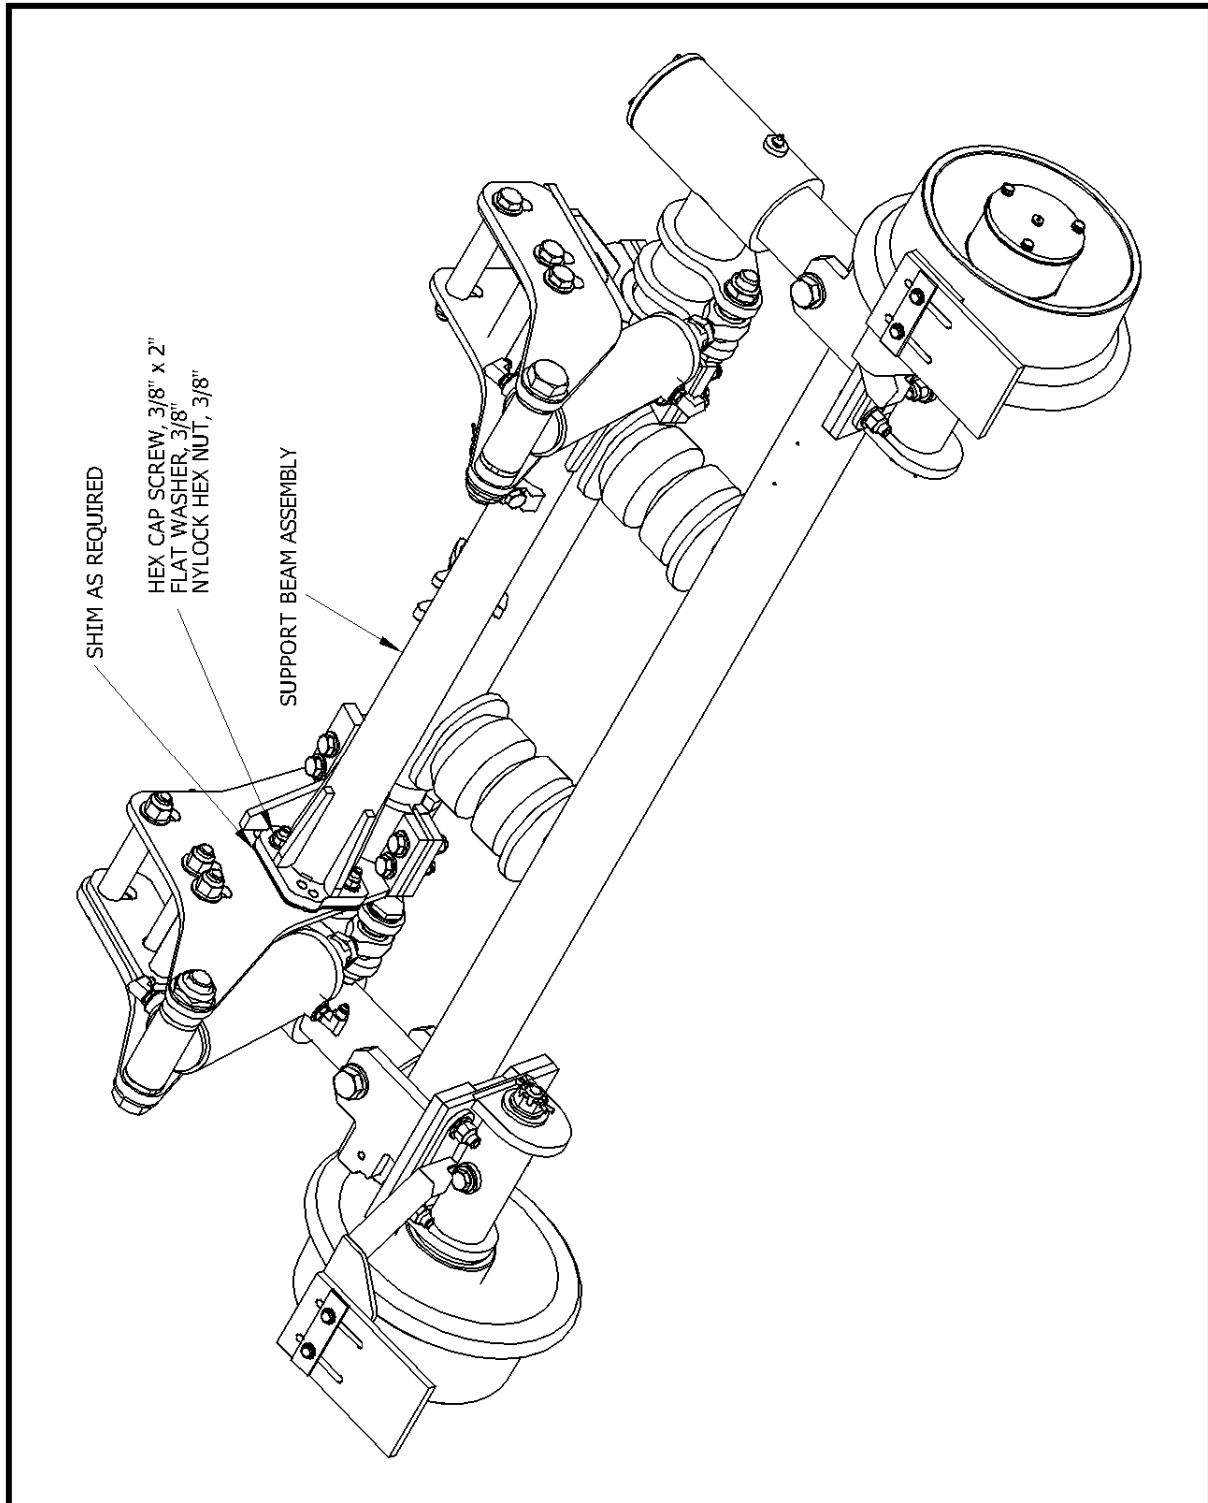

Figure 2
3. Install new support beam assembly using the 3/8" hardware and shims supplied with this kit, torque 3/8" mounting bolts 40-45 ft-lbs. (Figure 2)